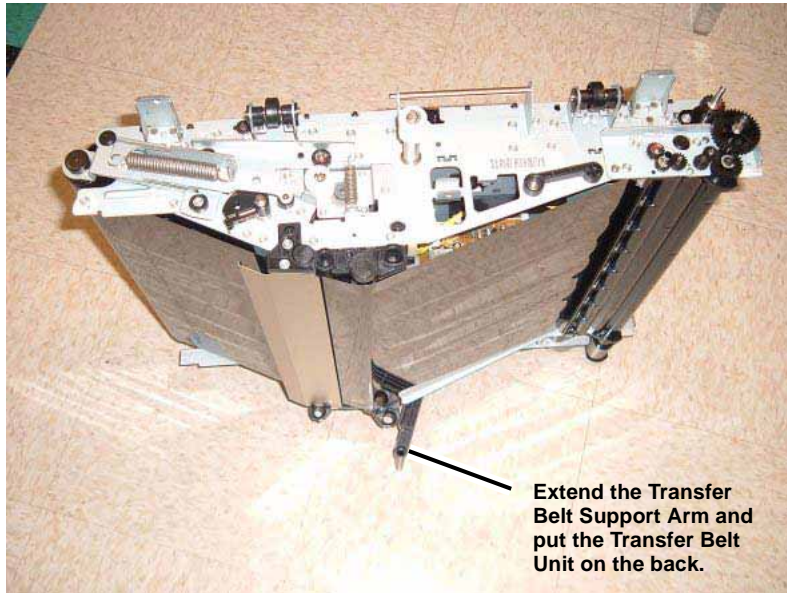

Figure 1 Extending the Transfer Belt Support Arm
1. Remove the Transfer Belt Unit (REP 9.1) and put the Belt Unit on it's back (Figure 1).